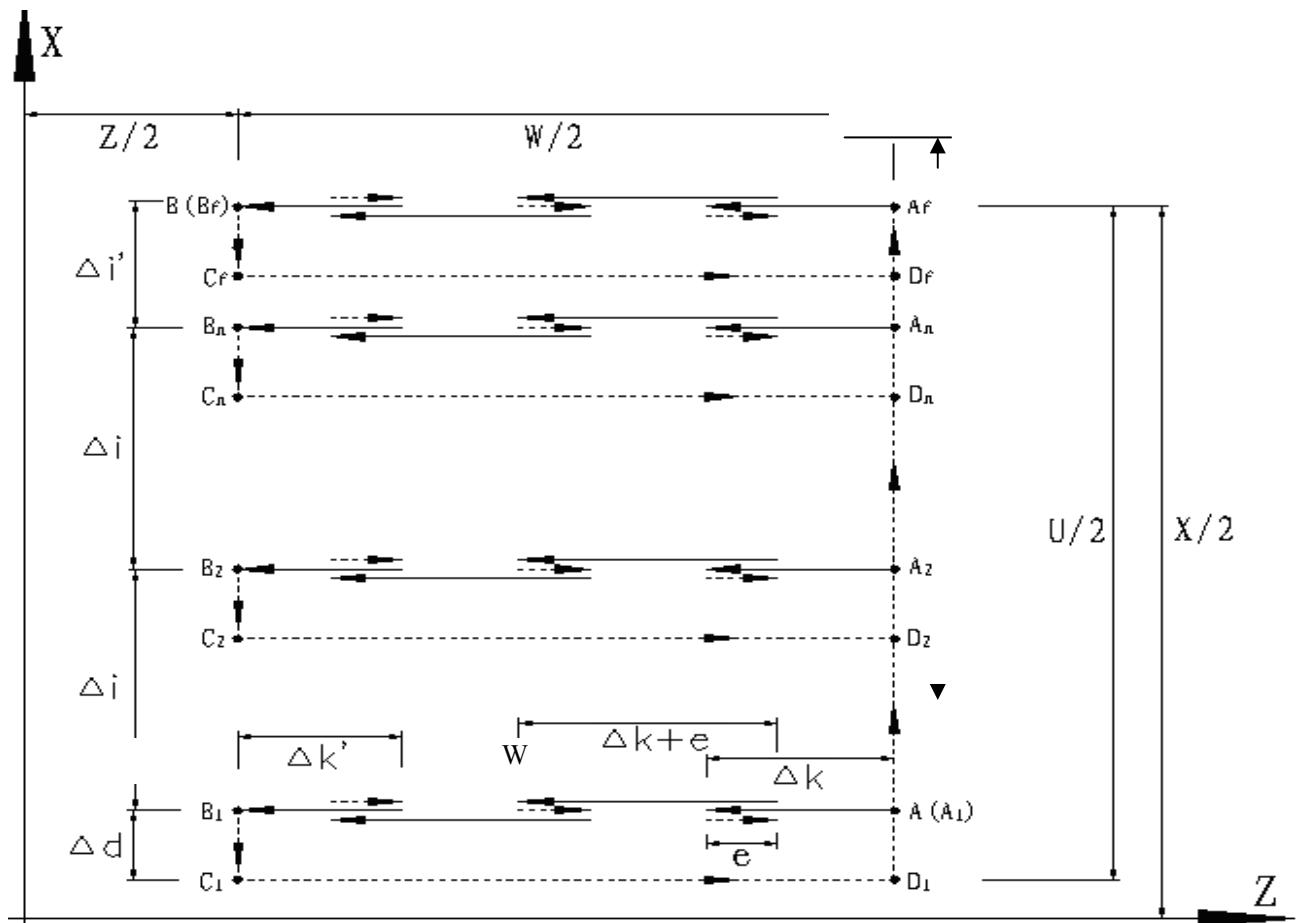

Fig.2-50 G74 path
**Code execution process: Fig. 2-50.**
- ① Z executes the axial cutting feed  $\Delta k$  from the start point of axial cutting cycle  $A_n$ . When Z coordinate of cutting end point is less than that of the start point, Z negatively feeds, otherwise, Z positively feed;
- ② Z executes the axial tool retraction  $e$  rapidly, and its tool retraction direction is opposite to the feed direction of Step ① ;
- ③ When Z executes feed cutting ( $\Delta k+e$ ) again, and the feed end point is still between the axial cutting cycle starting point  $A_n$  and the axial tool infeed end point  $B_n$ . It executes the cutting feed ( $\Delta k+e$ ) again, and executes the Step ②; after Z executes the cutting feed ( $\Delta k+e$ ), its feed end point reaches  $B_n$  or is not between  $A_n$  and  $B_n$ , Z executes the cutting feed to  $B_n$ , and execute the Step ④;
- ④ X executes the radial tool retraction  $\Delta d$  (radius value) rapidly to  $C_n$ . When X coordinate of cutting end point  $B_f$  is less than that of the start point  $A$ , X positively executes tool retraction, otherwise, Z executes negatively tool retraction;
- ⑤ Z executes the axial tool retraction to  $D_n$  rapidly, and the  $n$  times cutting cycle ends. When the current is not the last axial cutting cycle, the system executes the Step ⑥; when the current is the last axial cutting cycle, the system executes the Step ⑦;
- ⑥ X executes the rapid tool infeed, and its infeed direction is opposite to the Step ④. After X executes the tool infeed ( $\Delta d+\Delta i$ ) (radius value), the tool infeed end point is still between  $A$  and  $A_f$  (it is the start point of the last axial cutting cycle), X executes the rapid tool infeed